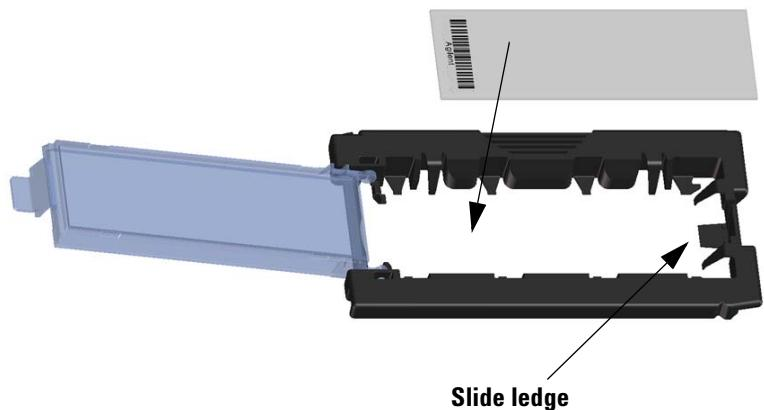

Figure 39 Inserting slide into the slide holder
- c Carefully place the end of the slide without the barcode label onto the slide ledge. See Figure 39.